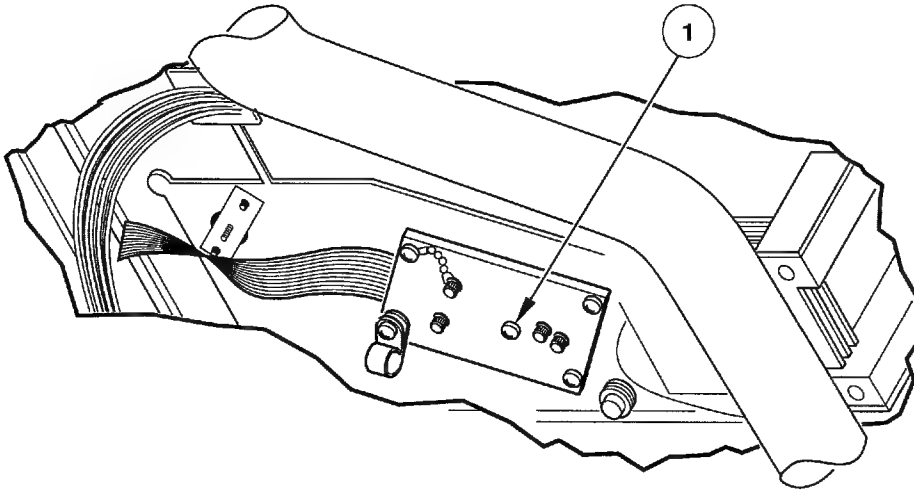
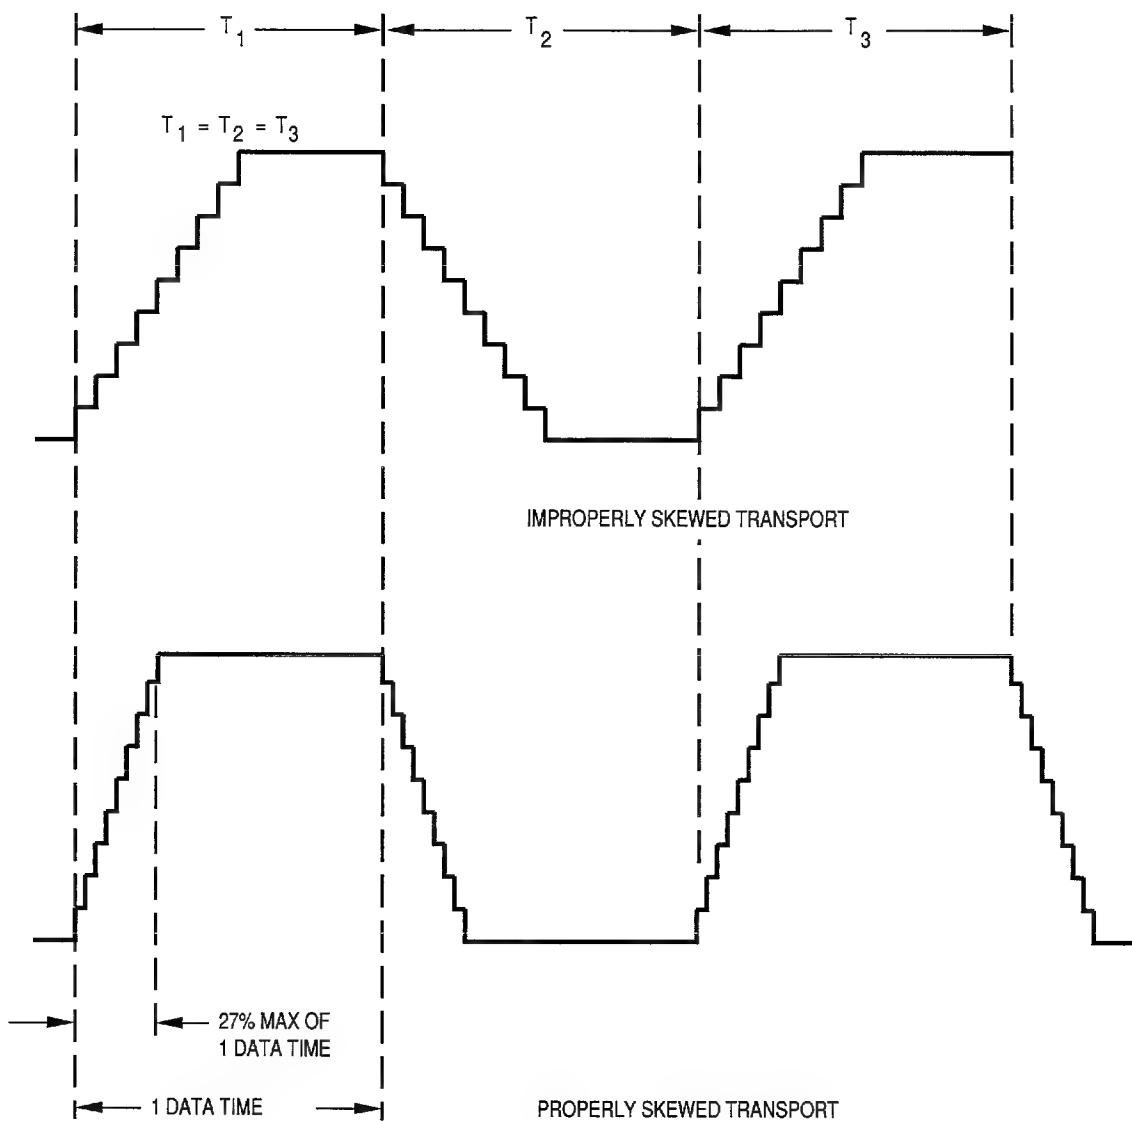

Figure 6-35. Location of Skew Adjustment Screw
Figure 6-36. Skew Adjustment Waveform
4. Turn the skew adjustment screw (1 in Figure 6-35) until the outputs of all tracks fall within 27 percent or less of the byte space, while the tape runs forward then in reverse. See Figure 6-36.
5. Apply torque seal to the skew adjustment screw (1 in Figure 6-35).